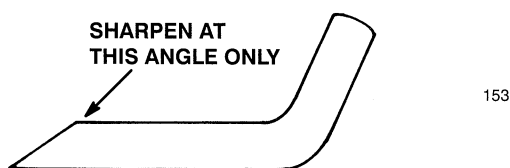

Figure 24
6. **SHARPENING BLADE**—Using a file, sharpen top side of blade and maintain original cutting angle (Fig. 24). The blade will remain balanced if same amount of material is removed from both cutting edges.